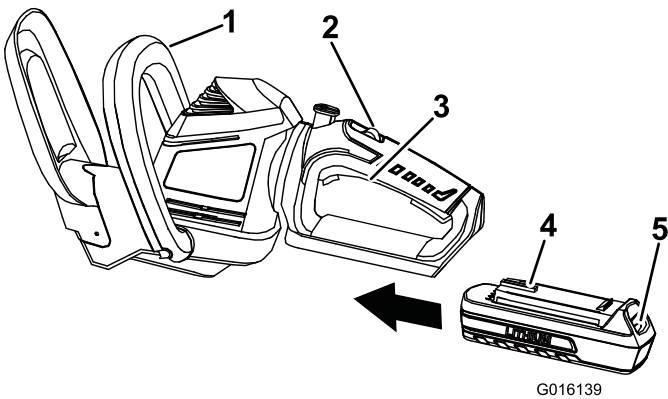

Figure 2
2. Align the tongue of the battery pack with the cavity in the handle housing (Figure 2).
3. Grasp the trigger handle (Figure 2)..
5. Place one hand on the trigger handle. Place the other hand on the auxiliary handle (Figure 2).
6. Slide the lock switch backwards, towards you, then squeeze the trigger switch to turn on the hedge trimmer (Figure 2). The trimmer will stay on as long as the trigger switch is squeezed. Lock-off switch may be released once hedge trimmer is running (Figure 2).